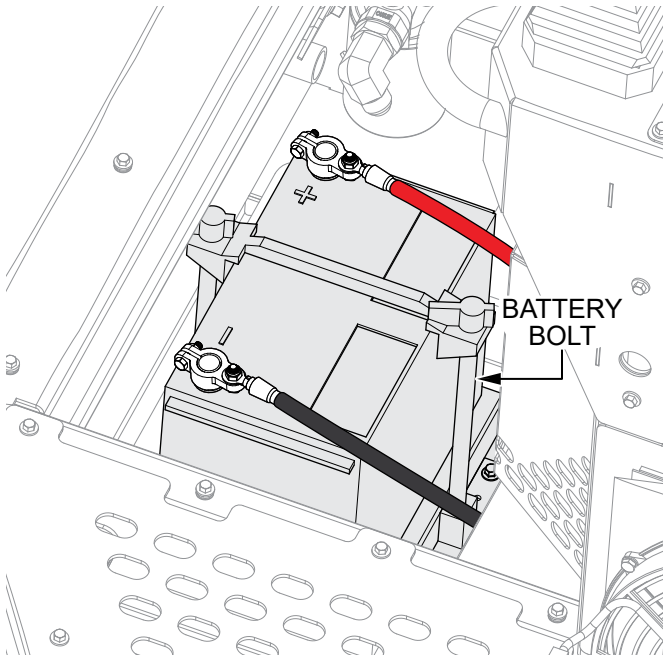

Figure 14. Battery Connection
1. Make sure the battery is well secured in the battery tray with the two **battery bolts** (Figure 14).
2. Connect the positive (RED) battery cable to the positive (+) terminal on the battery, then connect the negative (BLACK) battery cable to the negative (-) terminal. See Figure 14.